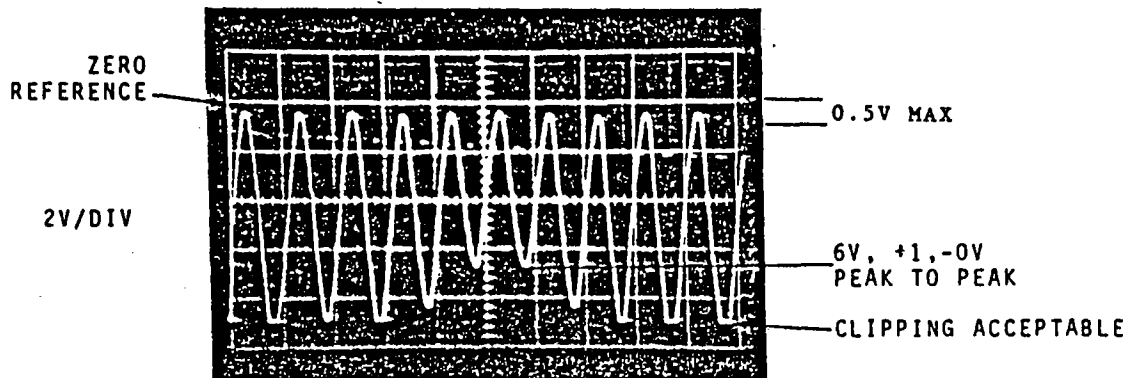

Figure 5-14. Reel Tachometer Sensor Output
6. Adjust the potentiometer R9 to set the shortest pulse in the display to 6.0 ± 1 -0 volts peak-to-peak. See Figure 5-14. Slight clipping of the longest pulses is acceptable and may be ignored.